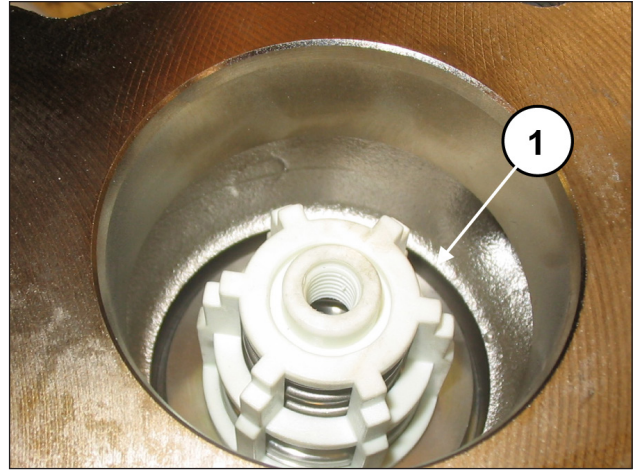
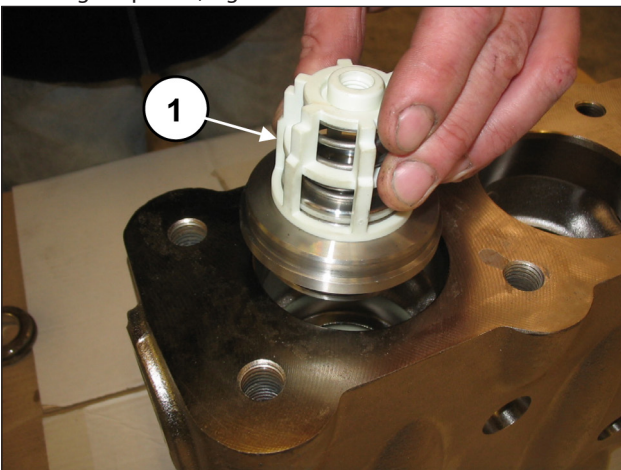

Fig. 125
Fig. 124
Insert the outlet valve unit (pos. ①, Fig. 124). The valve unit must be fully inserted into the bottom and should look like the image in pos. ①, Fig. 125.